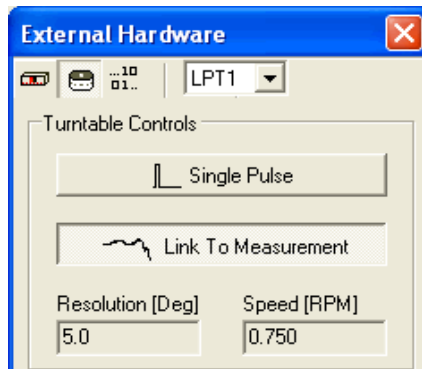

Figure 12.19
- 3) Recall the turntable control dialog (Fig.12.19), set Resolution at 5° , Speed at 0.75 RPM and press Link To Measurement